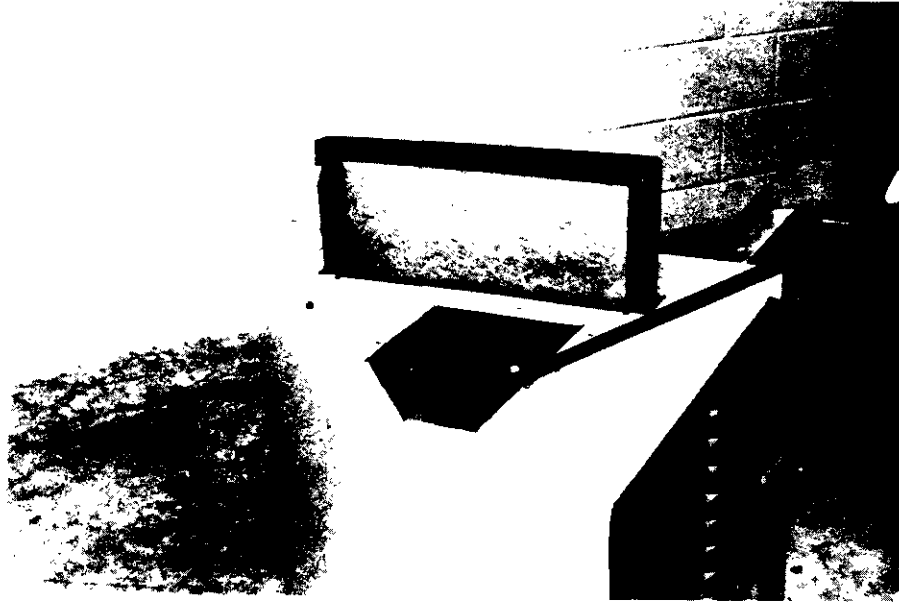
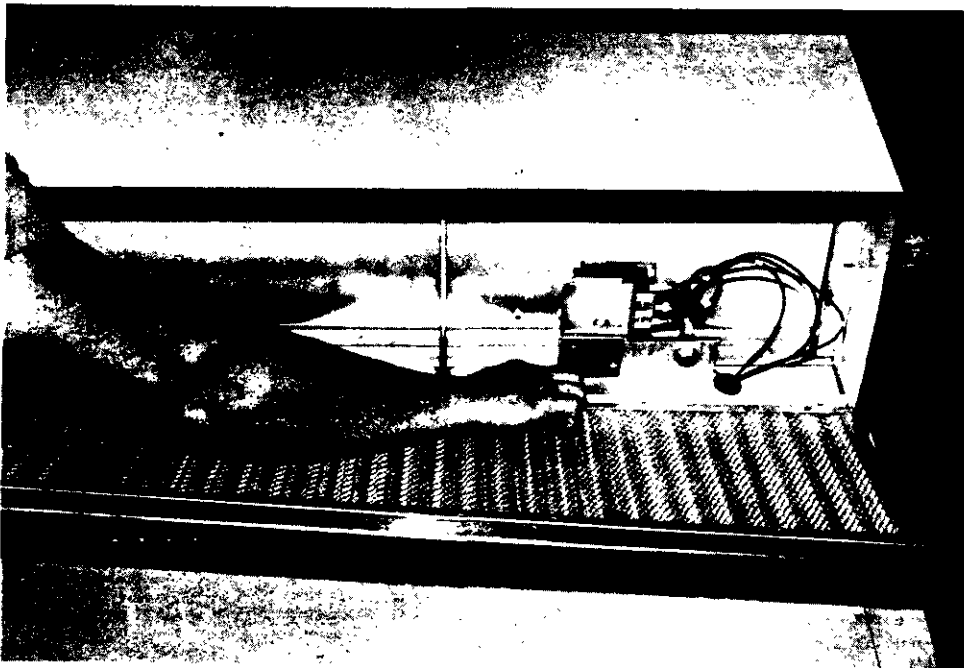

FIGURE 9
FIGURE 10
- 13.) REMOVE FILTER ACCESS AND CONTROL ACCESS PANELS ON SIDE OF INTAKE HOOD OF ECONOMIZER ASSEMBLY. (SEE FIGURE 9) REMOVE MOISTURE ELIMINATOR UNDER INTAKE HOOD OF ECONOMIZER. (SEE FIGURE 10)
- a.) LOCATE THE MINIMUM POSITION POTENTIOMETER ON THE MOTOR (SEE ENCLOSED MANUFACTURERS LITERATURE) LOCATED ABOVE WIRING TERMINALS. (FIGURE 9)
- c.) CYCLE THE MINIMUM POSITION POTENTIOMETER (FACTORY SET FOR 0% FRESH AIR) 0 TO FULL OPEN. (SEE FIGURE 9) THROUGHOUT CHECKOUT PROCEDURE OBSERVE OPERATION OF DAMPER TO INSURE THERE IS FREE, UNOBSTRUCTED OPERATION THROUGH THE ENTIRE RANGE OF DAMPER TRAVEL. THEN ADJUST THE DAMPER MINIMUM OPEN POSITION TO MEET LOCAL CODES OR APPLICATION REQUIREMENTS. (SEE EXAMPLE BELOW)
FRESH AIR COOLING DESIRED WHEN UNIT IS IN ECONOMIZER MODE AND IS TYPICALLY DESIRED TO BE 55°F TO 60°F.) LOCATE THE ENTHALPY CONTROL ADJUSTMENT KNOB ON ENTHALPY CONTROL IN ECONOMIZER INTAKE HOOD (FIGURE 10).
- f.) ADJUST THE ENTHALPY CONTROL TO POSITION A,B,C,D TO ACHIEVE THE MAXIMUM COMBINATION OF TEMPERATURE AND HUMIDITY ACCEPTABLE FOR THE INSTALLATION AS PER THE CHART IN MANUFACTURERS ENCLOSED INSTRUCTIONS. (THE SUGGESTED SETTING IS BETWEEN A & B 70°DB @ 55 PERCENT RH. IT IS FURTHER RECOMMENDED TO ALWAYS SET THE CONTROL AT C OR ABOVE. (FIGURE 10)
- g.) SWITCH THE THERMOSTAT FAN CONTROL TO AUTOMATIC AND POSITION THE HEAT COOL SWITCH TO COOL. ADJUST THE THERMOSTAT TEMPERATURE TO ENGAGE THE FIRST STAGE OF COOLING ONLY (Y). THIS WILL CAUSE THE DAMPERS TO MODULATE TO ACHIEVE THE PREVIOUSLY SET MIXED AIR TEMPERATURE PROVIDED OUTSIDE AIR ENTHALPY IS SUFFICIENTLY LOW. IF ENTHALPY IS TOO HIGH FOR ECONOMIZING, LOW ENTHALPY CAN BE SIMULATED BY TEMPORARILY REMOVING AND JUMPING LEADS ON THERMINAL 2 AND 3 OF ENTHALPY CONTROL TOGETHER. THIS WILL ALSO CAUSE THE ECONOMIZER DAMPER TO MODULATE AWAY FROM MINIMUM POSITION (BE SURE TO PROPERLY RECONNECT LEADS AT END OF CHECKOUT PROCEDURE.)